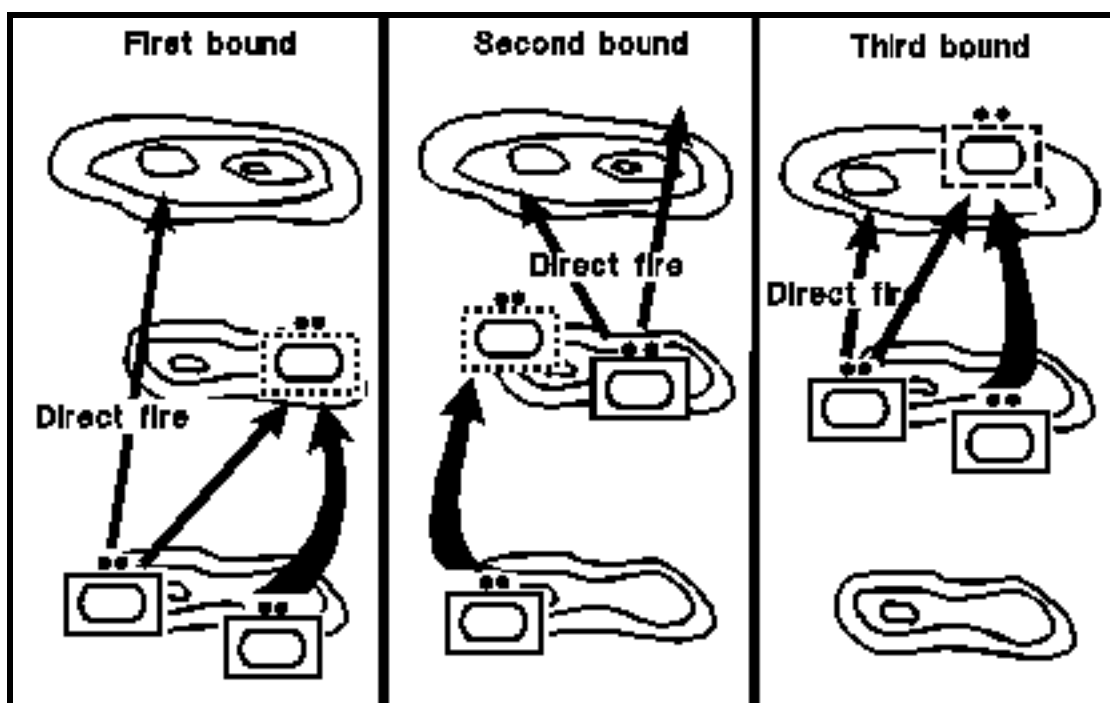

Figure 3-2. Movement by successive bounds.
- **Successive bounds.** In this method, the lead element, covered by the rear element, advances and takes up an overwatch position. The rear element advances to an overwatch position abreast of the lead element and halts. The lead element then moves to the next position, and so on. Only one element moves at a time, and the rear element avoids advancing beyond the lead element. This method is easier to control and more secure than the alternate bounding method, but it is slower (Refer to Figure 3-2, page 3-12.)